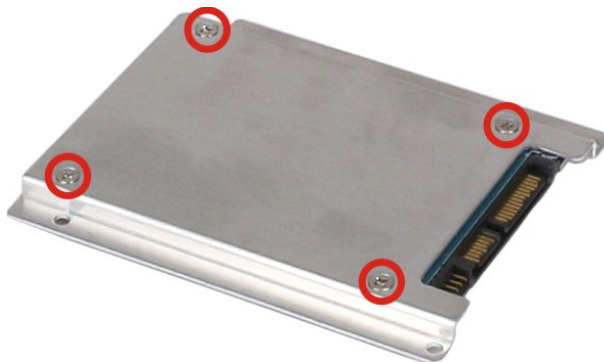

Figure 3-4: HDD Retention Screws
Step 3: Attach the HDD brackets to the HDD. To do this, align the four retention screw holes from the bottom of the HDD bracket with the retention screw holes on bottom of the HDD. Insert four retention screws into the HDD bracket (**Figure 3-4**).